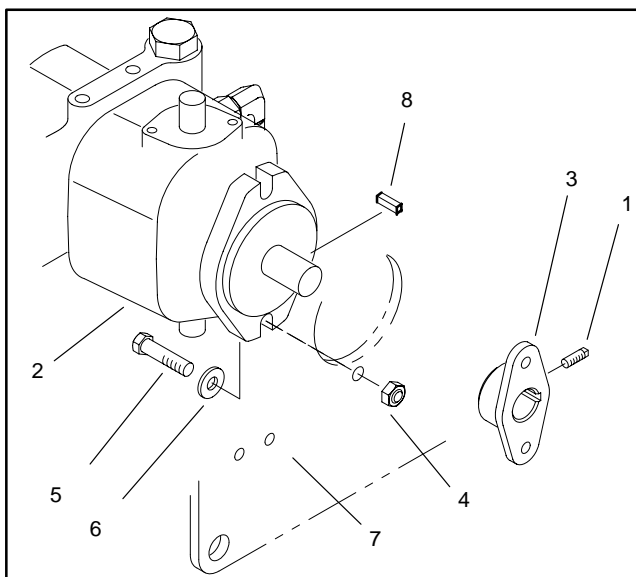

Figure 36
A. Loosen set screw securing the hydrostat shaft to the hub (Fig. 36).
D. Remove both locknuts, cap screws, and flat washers securing the hydrostat to the pump plate. Be careful not to lose the key (Fig. 36).
A. The black (negative) battery cable (37) and Black wire harness ground (38) to the lower engine.
B. The red (positive) battery cable (39) and red wires and connector to the starter solenoid.
A. Apply antiseize lubricant to the key and install into hydrostat shaft. Slide shaft and key into hub (Fig. 36).
D. Secure hydrostat shaft to the hub by tightening set screw (Fig. 36).